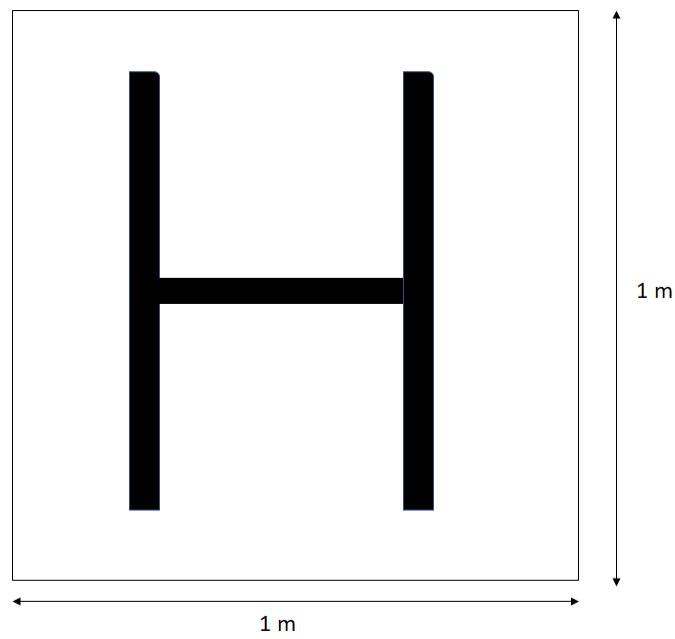

Fig 4. Image of the helipad for landing of multi-rotors.
- The square for the multirotors will contain a Helipad sign as shown in Fig. 4. And the runway for the fixed wing landing is shown in Fig. 5.